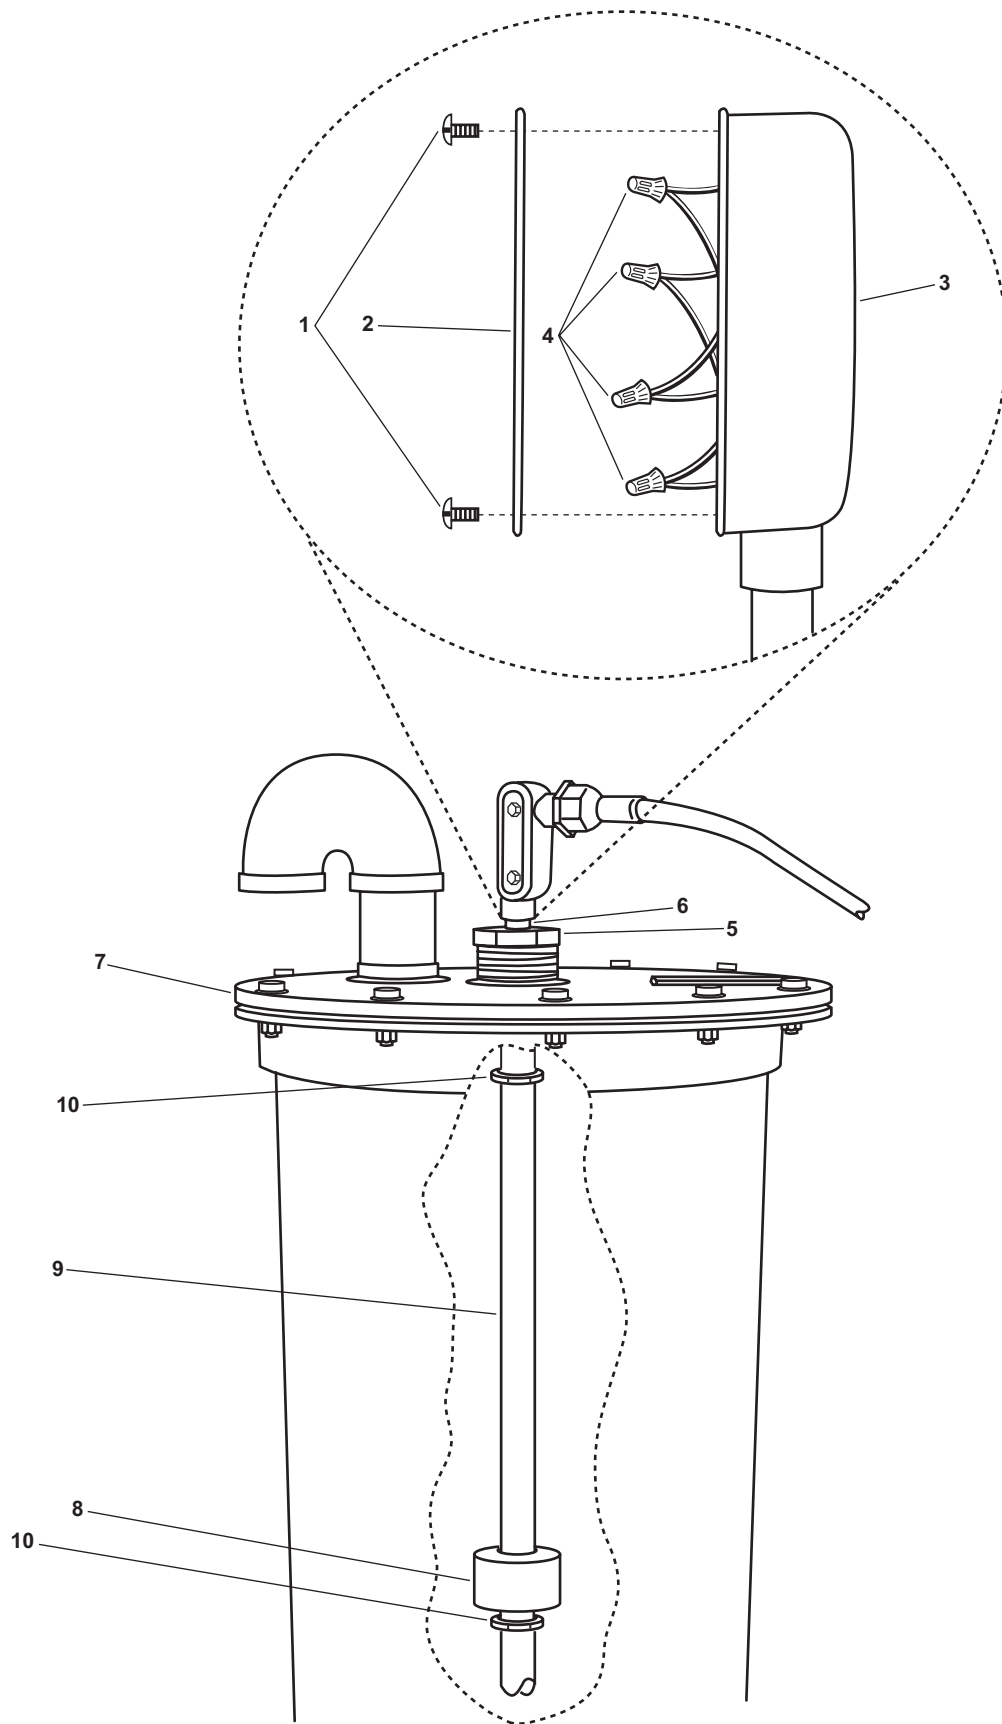

Figure 1. Float Level Switch
1. Remove the two screws (figure 1, item 1) securing the cover (figure 1, item 2) to the junction box (figure 1, item 3). Remove the cover.
2. Use a multimeter to check for available voltage at the wiring (figure 1, item 4). If voltage is present, verify that the proper circuit breaker is secured, locked out, and tagged out (FM 55-502). If no voltage is present, continue with the procedure.
3. Label, disconnect, and remove the wiring (figure 1, item 4) from the junction box (figure 1, item 3).
4. Loosen the hex nut collar (figure 1, item 5), and remove the float level switch (figure 1, item 6) from the wet well tank lid (figure 1, item 7).
5. Remove the junction box (figure 1, item 3) from the float level switch (figure 1, item 6).
6. Remove the hex nut collar (figure 1, item 5) from the float level switch (figure 1, item 6).
1. Clean the male threads on the hex nut collar (figure 1, item 4) with a wire brush.
2. Wrap the male threads on the hex nut collar (figure 1, item 4) with antiseizing tape and install it on the float level switch (figure 1, item 6).
3. Install the junction box (figure 1, item 3) on the float level switch (figure 1, item 6).
4. Install the float level switch (figure 1, item 6) into the wet well tank lid (figure 1, item 7) and secure it in place with the hex nut collar (figure 1, item 5).
5. Install and connect the wiring (figure 1, item 4) in the junction box (figure 1, item 3) using the labels from step 3 of Removal as a guide. Remove the labels.
6. Install the cover (figure 1, item 2) on the junction box (figure 1, item 3) and secure in place with the two screws (figure 1, item 1).